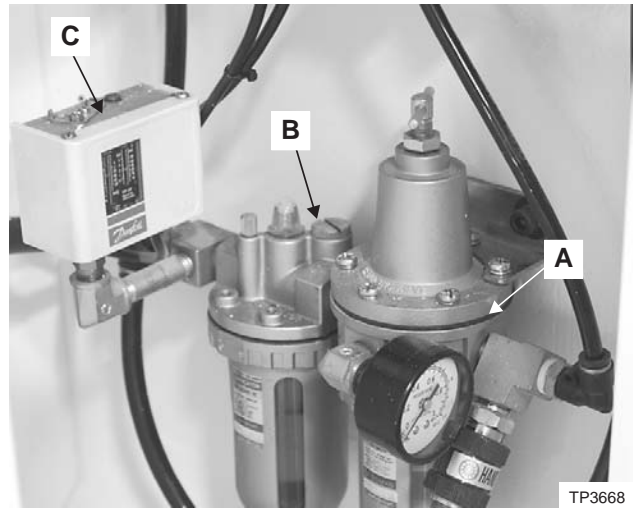

Figure 2.3 - Air Filter/Regulator/Lubricator
- B) Twist ring "A", Figure 2.3, above the outer shell on the filter/regulator counterclockwise to release the shell and bowl from the head. Drain any water and contaminants from the bottom of the bowl.
3. If pressure switch "C", Figure 2.3, has a junction box/switch box, disconnect the wiring cable as follows:
Pressure switch “C”, Figure 2.3, is designed to send a signal to the control and an alarm message appears on the control display when the air pressure falls below 58.8 psi [4 bars].